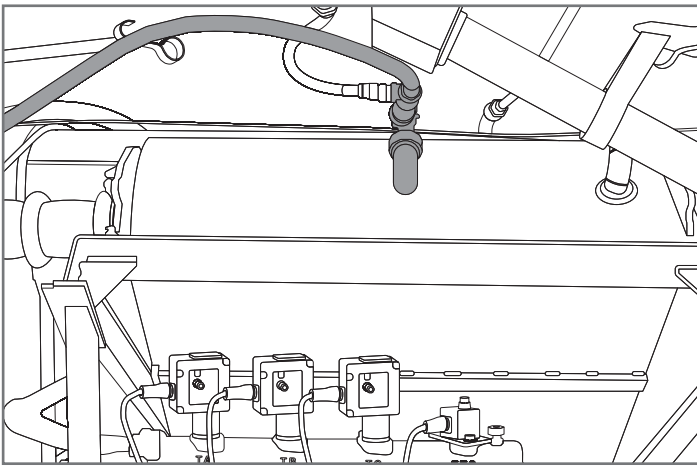

Figure 13. Coolant return hose (1/2 inch inner diameter) as installed at the locomotive's expansion tank.
3. Install fittings at the compressor or expansion tank to accept 1/2 inch hose. See Figure 12 and Figure 13.